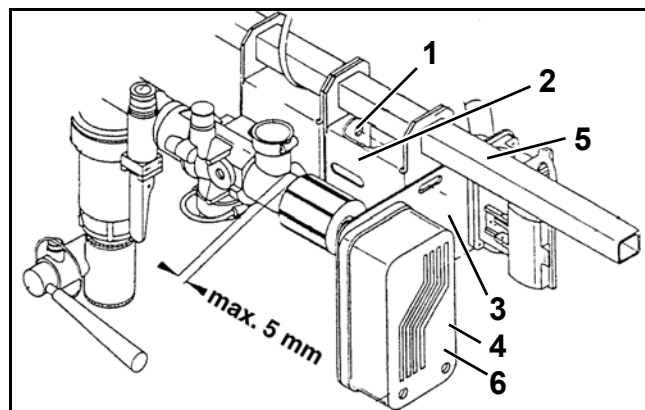

Fig. 137
- Remove the screw joint (Fig. 137/1) from the control device retainer (Fig. 137/2).
- Move the control retainer with the flange plate (Fig. 137/3) for the electric motor (Fig. 137/4) on the bracket (Fig. 137/5) to the right hand side until the electric motor and the metering spindle of the automatic metering are no longer connected.